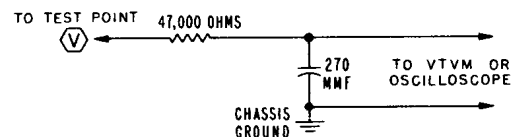

Figure 7. Decoupling Filter.
- Connect VTVM high side to test point "V" through a decoupling filter, see figures 7, 10 and 11.